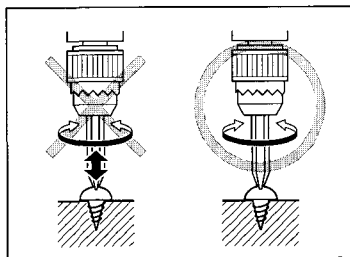

Fig. 2
7. **ALWAYS** set the change lever in ROTATION mode when tightening or loosening screws. (Fig. 2)